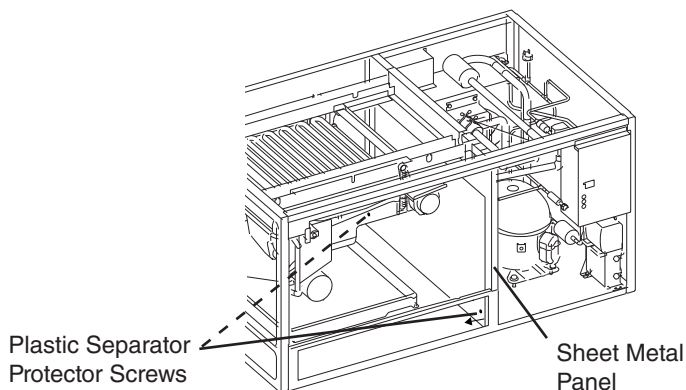

Fig. 6
- 14) Remove the 2 plastic separator protector screws, then pull the plastic separator protector out slightly. Slide the water guide provided in this kit, between the plastic separator protector and sheet metal panel. See Figs. 6 and 7. Replace the 2 plastic separator protector screws.